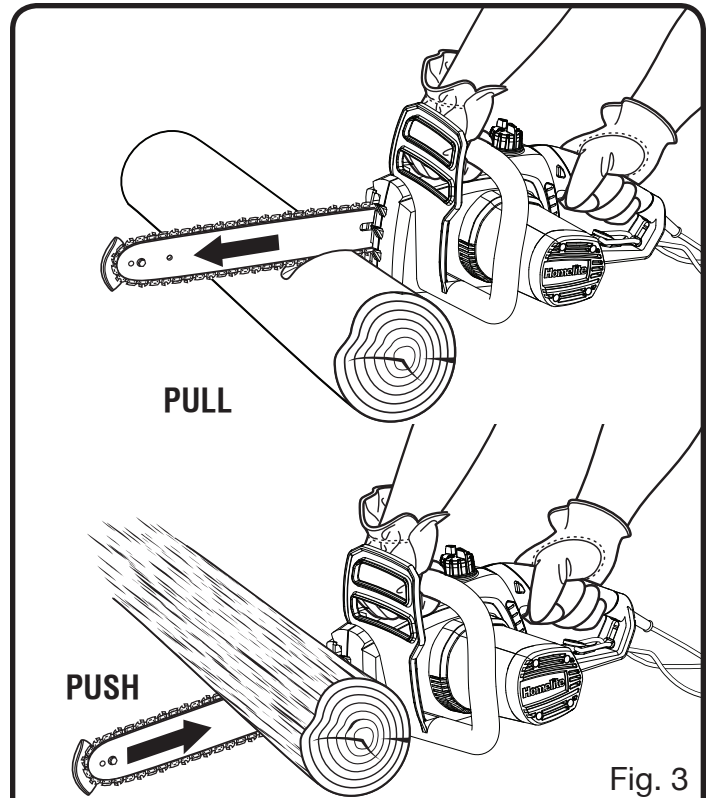

Fig. 3
- Push and Pull - This reaction force is always opposite to the direction the chain is moving where wood contact is made. Thus, the operator must be ready to control the PULL when cutting on the bottom edge of the bar, and PUSH when cutting along the top edge. *See Figure 3.*